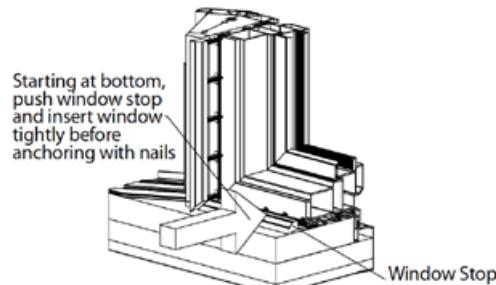

Figure F1
4. Starting at sill (bottom), take the window stop trim labeled with a #B and insert it between the Timberstrand® mullions with mitered ends facing up. Push the window stop tightly against insert window before brad nailing it. (**Figure F1**)
7. Repeat this process for the remaining pieces of window stop by installing the left (L) and right (R) pieces of window stop next and finishing with top piece (T) of window stop last.